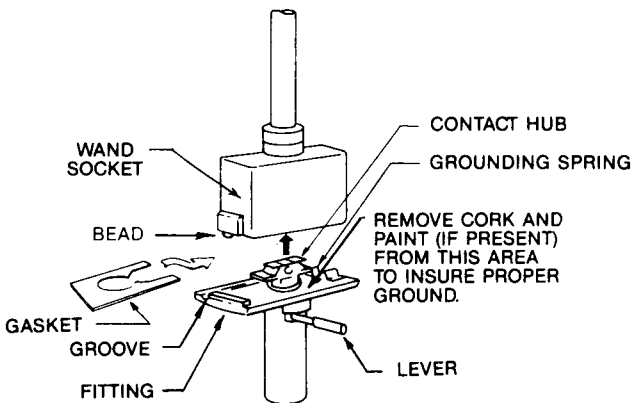

FIG. 11
1. Align BEAD on WAND SOCKET with GROOVE in FITTING before inserting into WAND SOCKET, see Fig. 11. (BEAD is NOT aligned a potential hazard may result.)
2. Position LEVER as shown in Fig. 11.